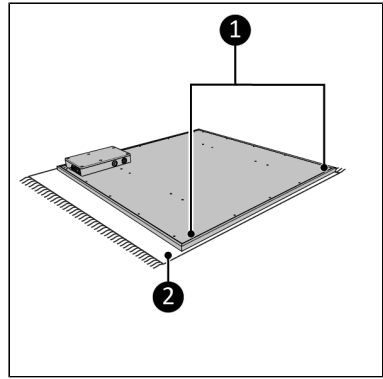

Figure 34.
1. Lay the device down on a steady, soft surface (Figure 34, pos. 2).